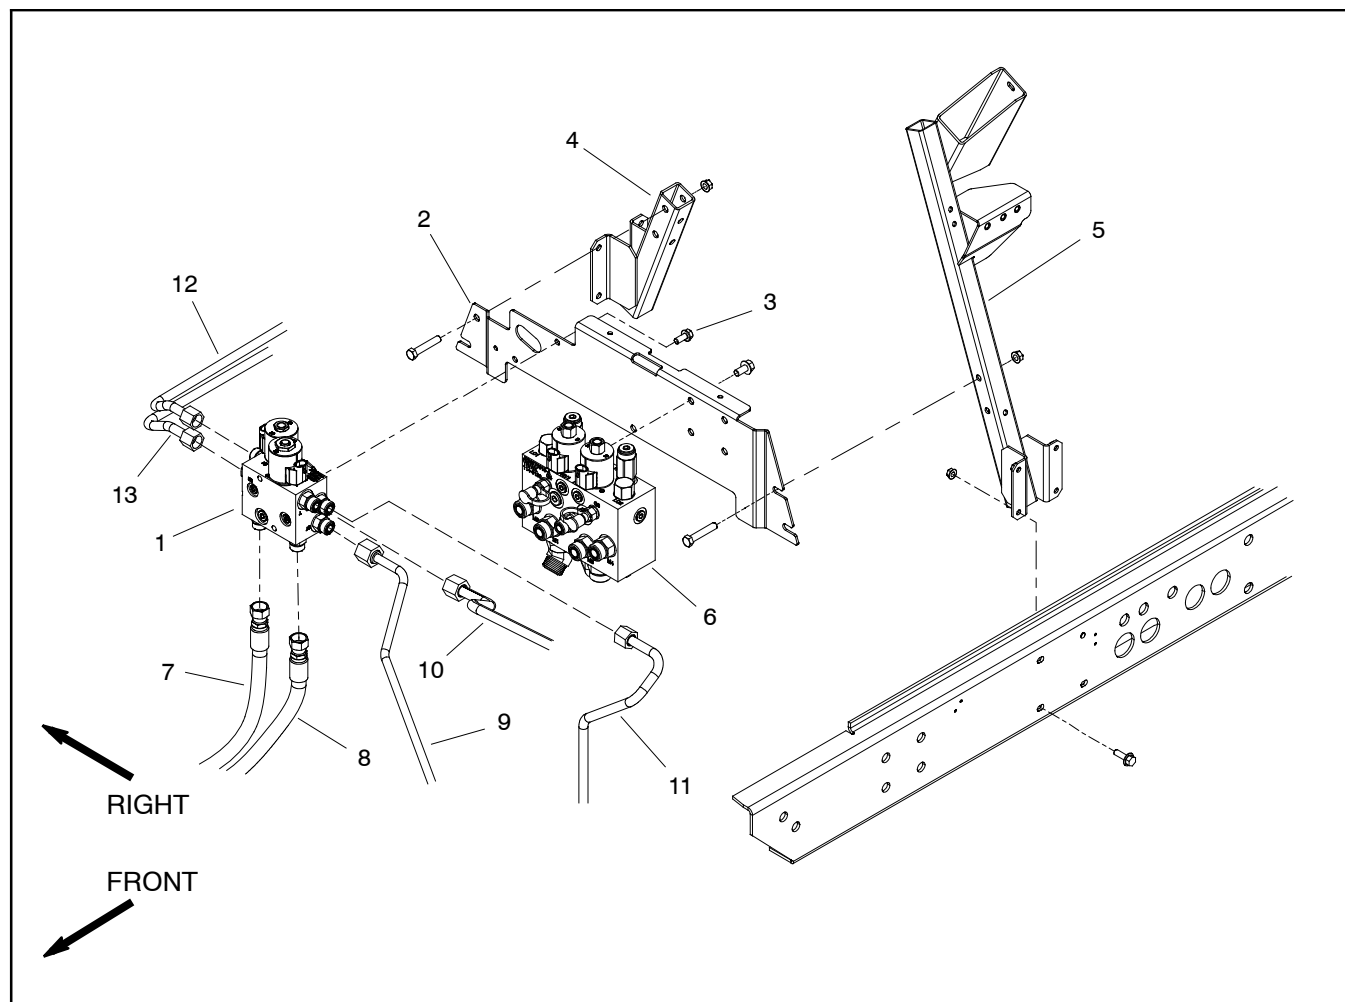

Figure 107
## Removal (Fig. 107)
7. Remove hydraulic manifold from the frame using Figure 107 as guide.
## Installation (Fig. 107)
2. Install hydraulic manifold to the frame using Figure 107 as guide.